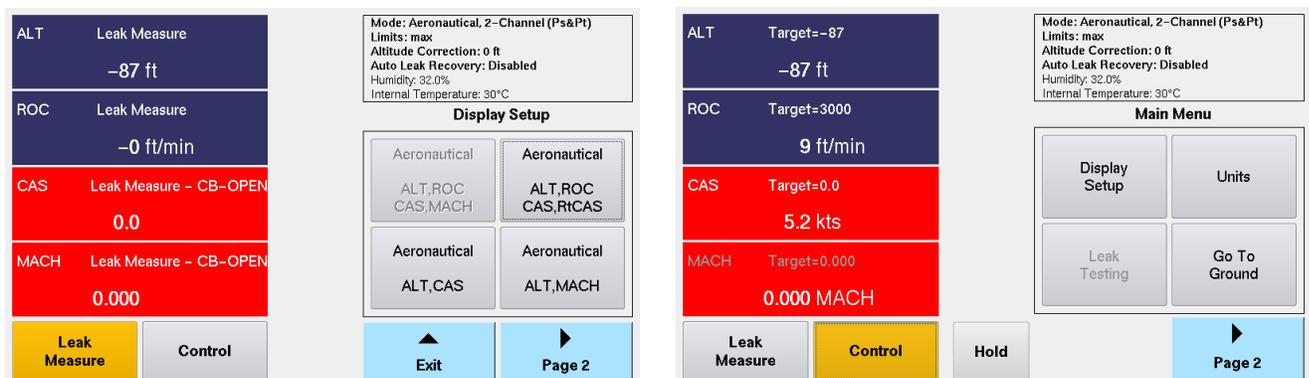

Figure 22 Display Setup Aeronautical Menu
4. The **Leak Measure** and **Control** mode softkey will have an amber background indicating which mode the Test Set is presently operating in (see Figure 22).